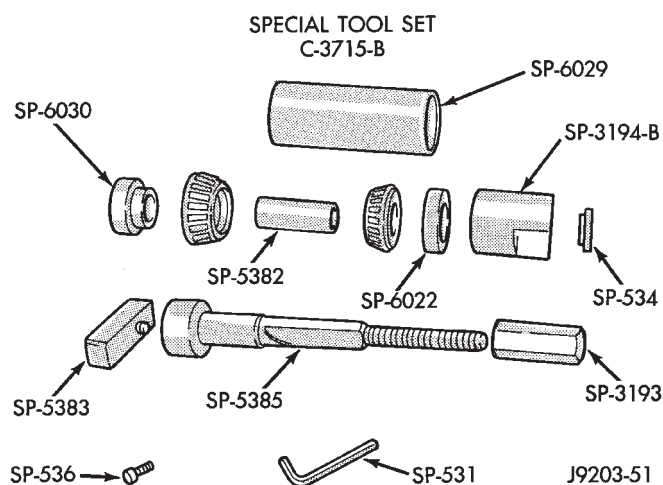

Fig. 53 8 1/4 Axle Pinion Adjustment Tools
- (1) Install front pinion bearing cup. Use Installer D-130 and Handle C-4171.
- (2) Install rear pinion bearing cup. Use Installer C-4308 and Handle C-4171.
- (3) Use Pinion Gear Adjustment Gauge Set C-3715-B (Fig. 53).
- (4) Position Spacer SP-6030 over Shaft SP-5385.
- (5) Position pinion rear bearing on shaft.
- (6) Position tools (with bearing) in the housing.
- (7) Install Sleeve SP-5382.
- (8) Install pinion front bearing.
- (9) Install Spacer SP-6022.
- (10) Install Sleeve SP-3194-B, Washer SP-534, and Nut SP-3193.
(11) Tighten the nut to seat the pinion bearings in the housing. Allow the sleeve to turn several times